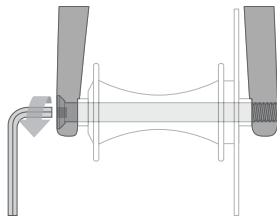
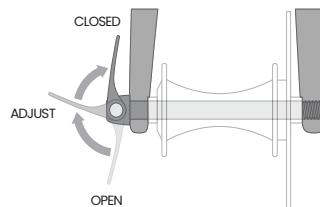

fig. 12a
fig. 12b
a. Adjusting the thru-axle mechanism (fig. 12a & 12b)
The thru-axle is inserted through the unthreaded hole in the frame or fork's dropout, through the wheel hub, and is threaded directly into the opposing dropout by tightening the thru-axle. Common installation methods may use an Allen hex key (fig. 12a) or a cam lever (fig. 12b). Please refer to the manufacturer's instructions for specific information about your thru-axle's operation, including correct torque specifications or lever adjustment information.
- (4) If your bike has a thru-axle front wheel mounting system (**figs. 12a & 12b**), loosen and remove the thru-axle according to the manufacturer's instructions, then remove the front wheel.
- (c) With a thru-axle system, tighten the thru-axle (**figs. 12a & 12b**) according to the manufacturer's instructions.
- (5) If your bike has a thru-axle rear wheel mounting system (**figs. 12a & 12b**), loosen and remove the thru-axle according to the manufacturer's instructions.
- (6) Push the rear wheel forward far enough to be able to remove the chain from the rear sprocket, then lift the rear wheel off the ground a few inches and remove it from the rear dropouts.